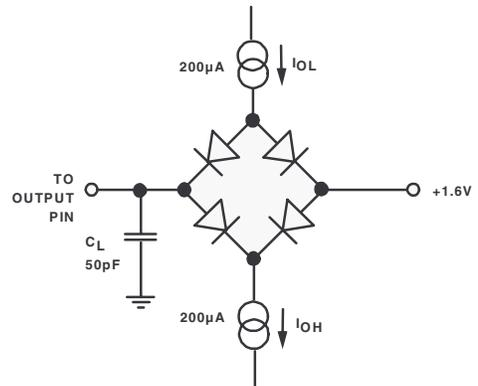

Figure 1. Load Circuit for Digital Output Timing Specifications
- ³Measured with the load circuit of Figure 1 and defined as the time required for the output to cross 0.8 V or 2.0 V.
- ⁴ t_8 is derived from the measured time taken by the data outputs to change 0.5 V when loaded with the circuit of Figure 1. The measured number is then extrapolated back to remove the effects of charging or discharging the 50 pF capacitor. This means that the time, t_8 , quoted in the timing characteristics is the true bus relinquish time of the part and is independent of the bus loading.